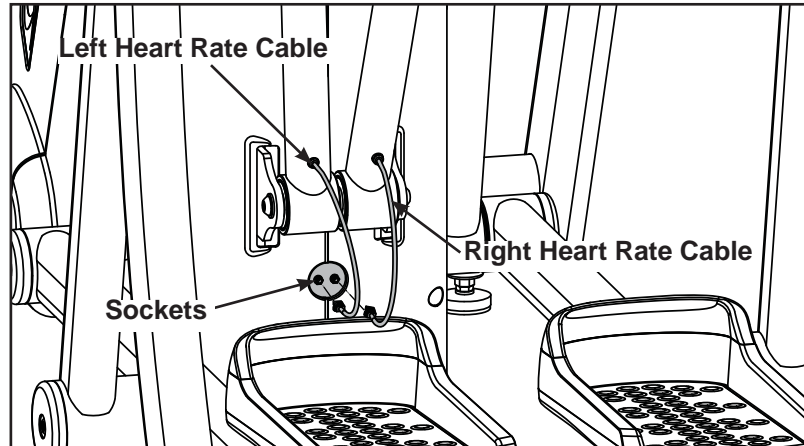

Figure 10
- B. Plug heart rate cables into main frame sockets. See Figure 10.